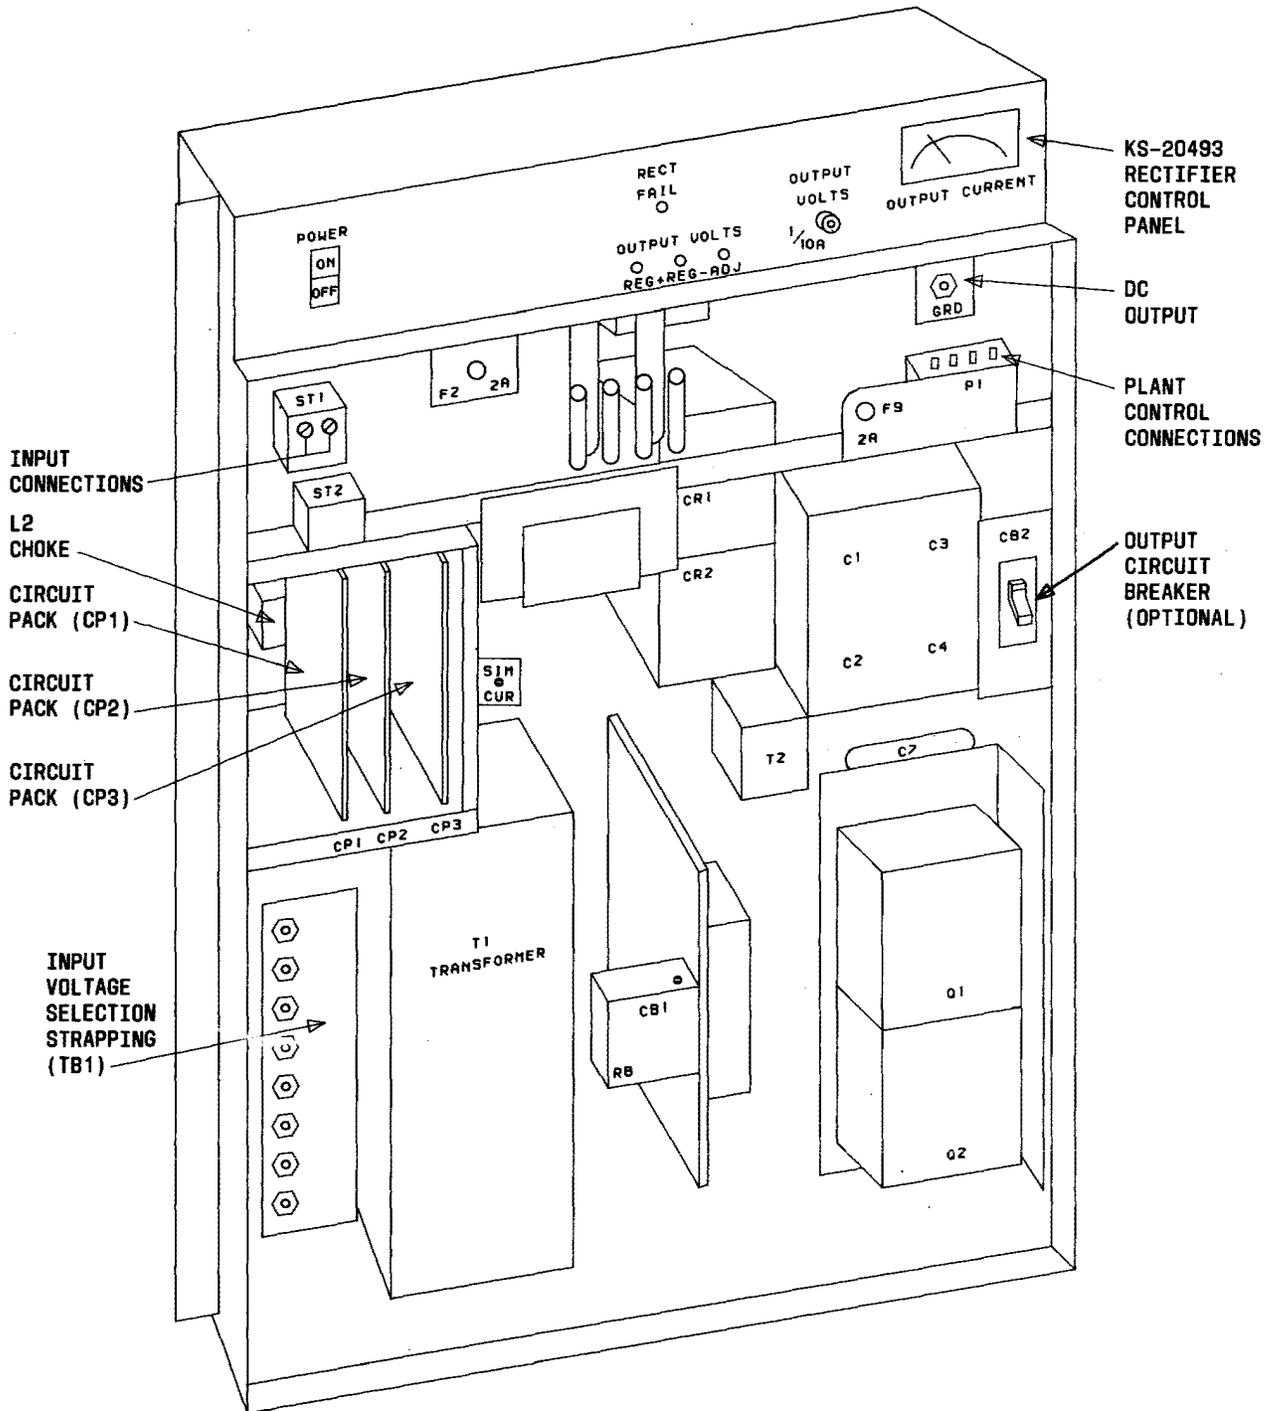

Fig. 9—KS-20493, L21 or L22 (ITT-North) Rectifier—Front Panel Removed
**3.10** The regulator and control circuit of the KS-20493 rectifier manufactured by ITT-North (Fig. 9) consist of the following printed wiring circuit packs: